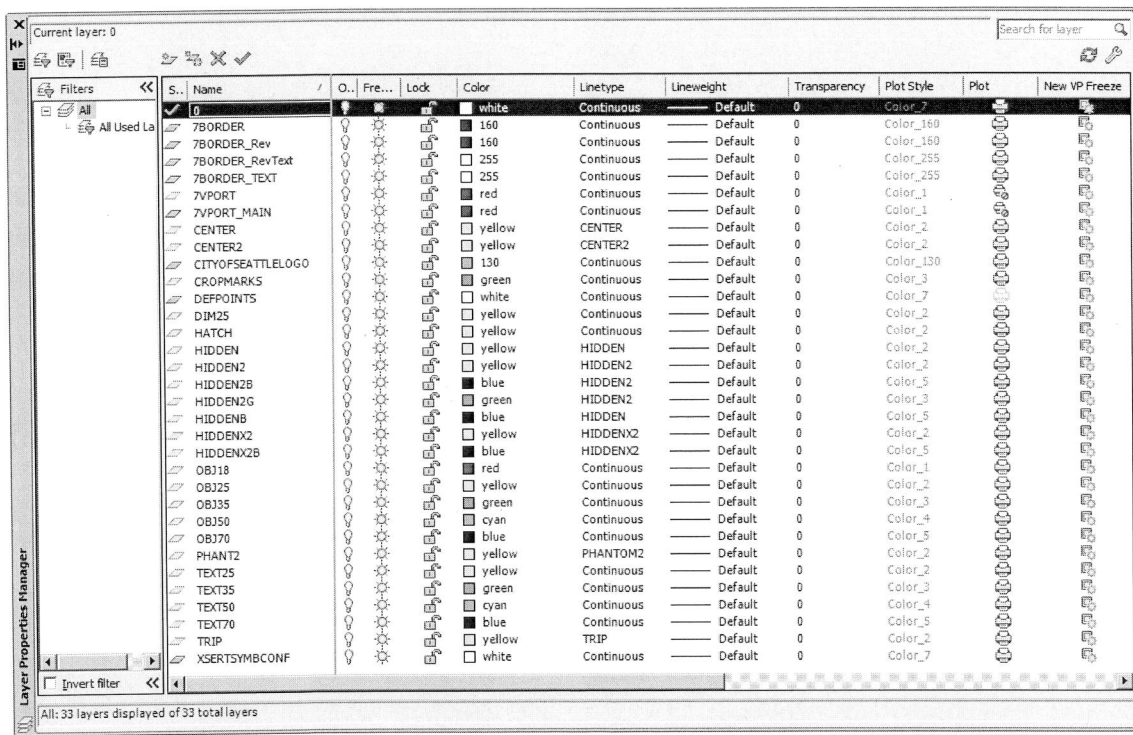

Figure 5
- **Layers, Colors and Linetypes:** The GenPS.dwt template includes 33 standard predefined layers. Use these predefined standard layers without changing layer properties. Create new layers complying with the US National CAD standard when other line types and properties are needed, such as for property line and benchmark data, topographic features, water resources, vegetation, pavements and other features, or any other special features. All entities in the drawings shall be drawn with colors and layers set to “By Layer” only. See **Figure 5** for SCL standard layers.